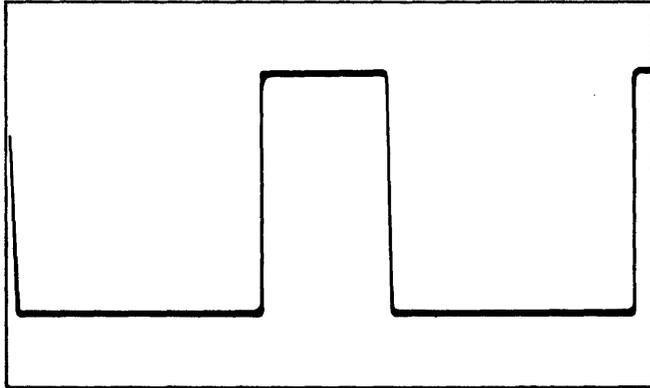

Figure 4-17. Write Current
4. Obtain the trace shown in figure 4-17. The peak-to-peak amplitude must be $3.9V \pm 0.1V$. Adjust R25 on the Read/Write board as necessary.